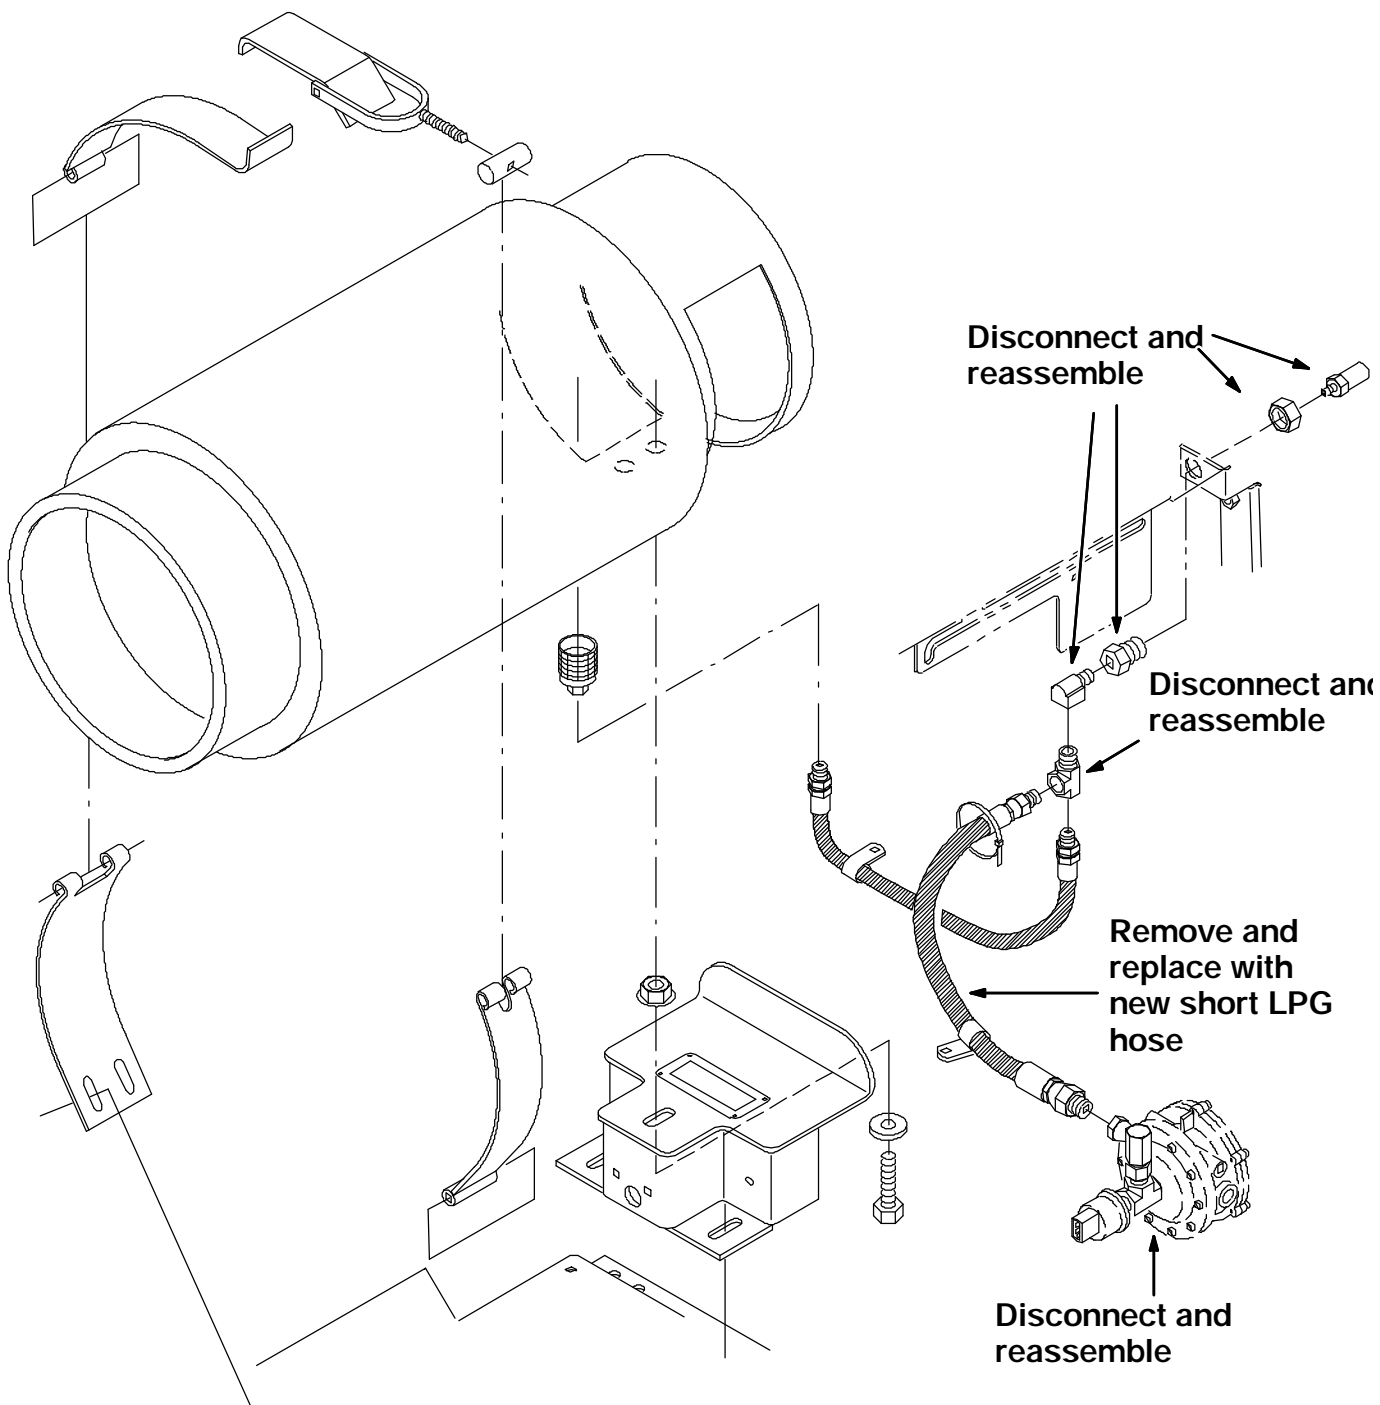

FIG. 2 - PRESS RELIEF VALVE REASSEMBLY
12. Locate the release valve in the rear of the machine next to the LPG tank. (Refer to FIG. 2 and 4)
13. Disconnect both LPG hoses from the release valve assembly and remove the valve assembly from the machine. (Refer to FIG. 2 and 4)